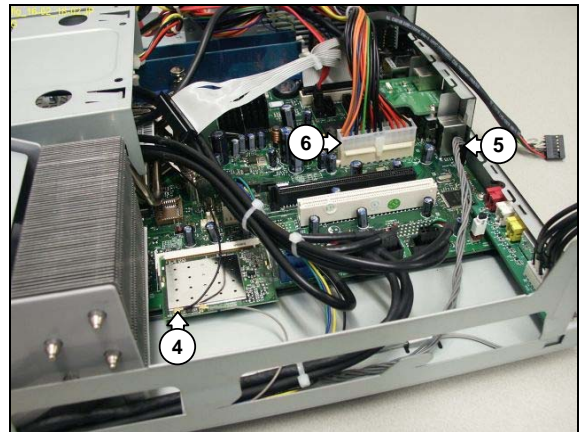

Figure 12.16-2
10. Disconnect the WLAN antenna cables (4) from the WLAN card. See Figure 12.16-2.
11. Disconnect the IR blaster cable (5) from the motherboard. See Figure 12.16-2.
12. Disconnect the PSU main power cable (6) from the motherboard. See Figure 12.16-2.